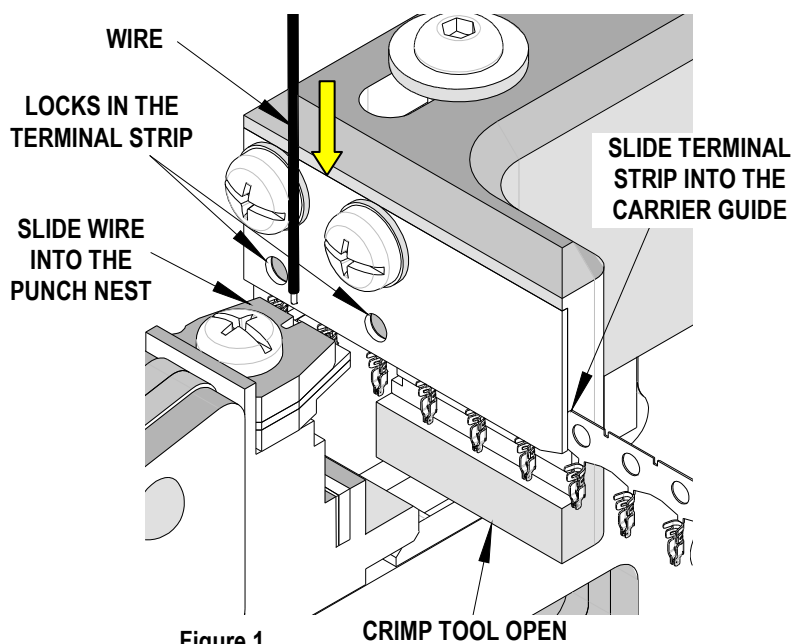

Figure 1
3. Push the strip in until it locks into the (2) detent in the carrier guide and a terminal is centered with the punch nest. See Figure 1.
9. If crimping more wires advance the terminal strip by (1) detent until the terminal is centered with the punch nest.